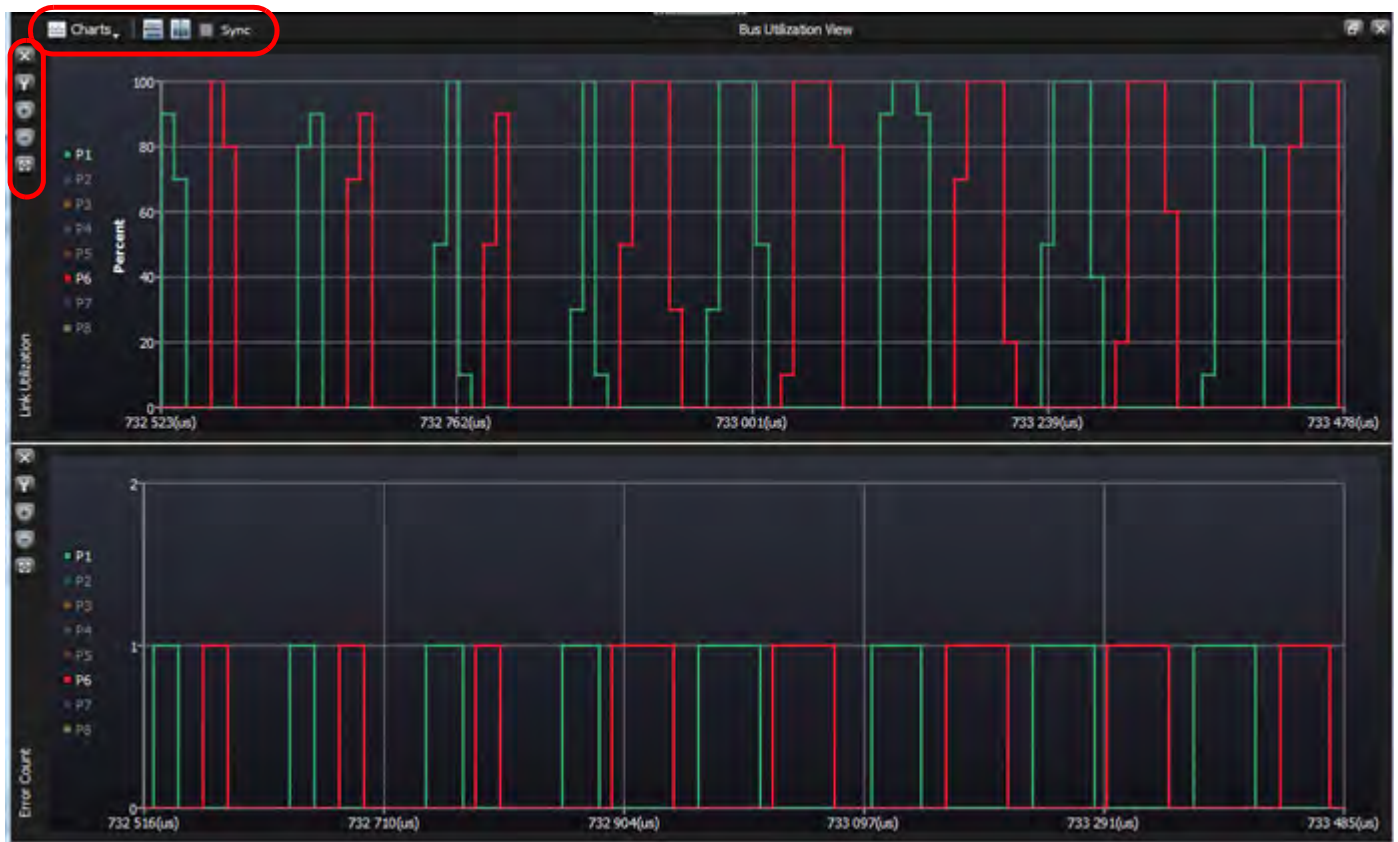

Figure 5.87: Typical Bus Utilization View (Ports P1 and P6 Showing)
The Bus Utilization View displays both a Link Utilization and an Error Count over a specific time frame. See Figure 5.87.
- Tile Vertical (Display windows vertically, as shown in Figures 5.87 & 5.95.)